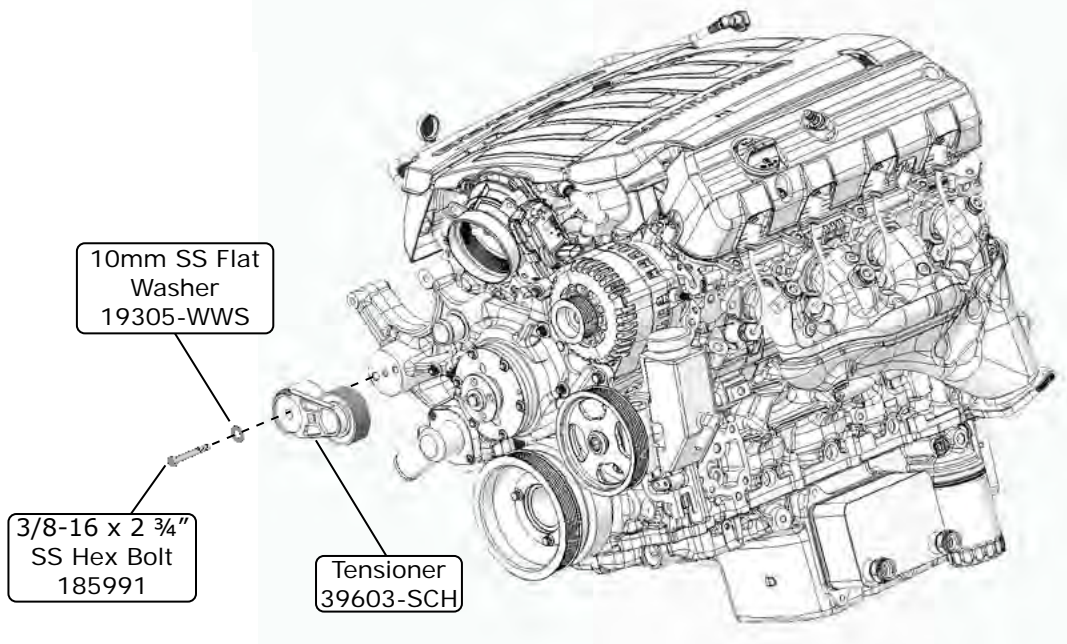

Figure 1
- Align tensioner pins with holes in casting as shown in Figure 1, below. Secure tensioner with 10mm washer and 3/8-16 x 2 3/4" SS hex bolt torqued to 21 +/-2 lb-ft (See Figure 1, below).